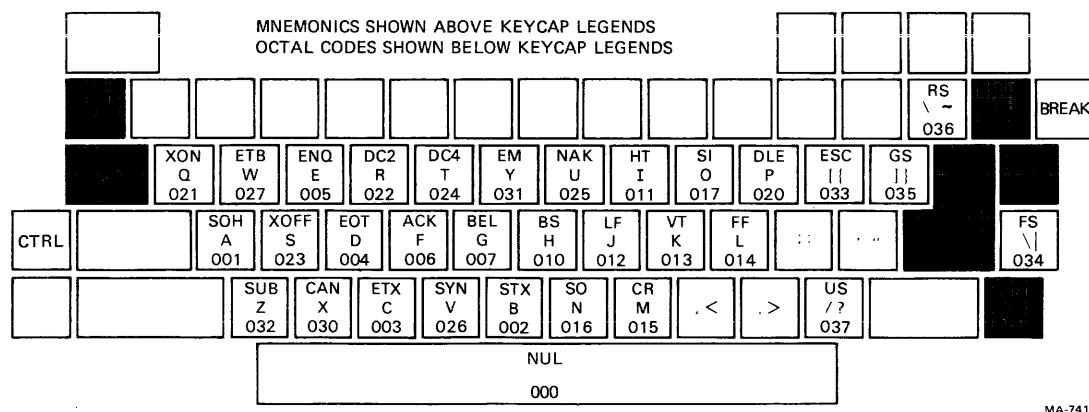

Figure 3-3 Function Key Control Codes
Figure 3-3 shows the keys that generate control characters. Control characters can be generated in two ways.
1. Hold down **CTRL**, and press any of the unshaded keys in Figure 3-3.
2. Press any of the shaded keys in Figure 3-3 without using **CTRL**. The shaded keys are dedicated keys that generate control characters without using **CTRL**.